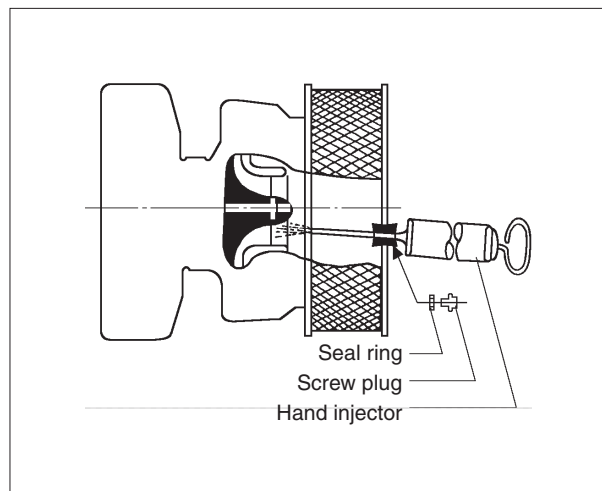

Fig 1.
- 2) Unscrew the plug, *see fig 1*, together with the seal ring from air filter silencer.